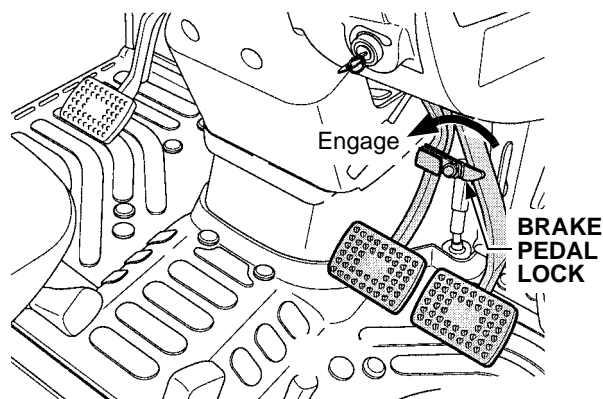

Figure 25
- If transporting the tractor to a job site or traveling on roadways, make certain the two brake pedals are interlocked. See Figure 25.